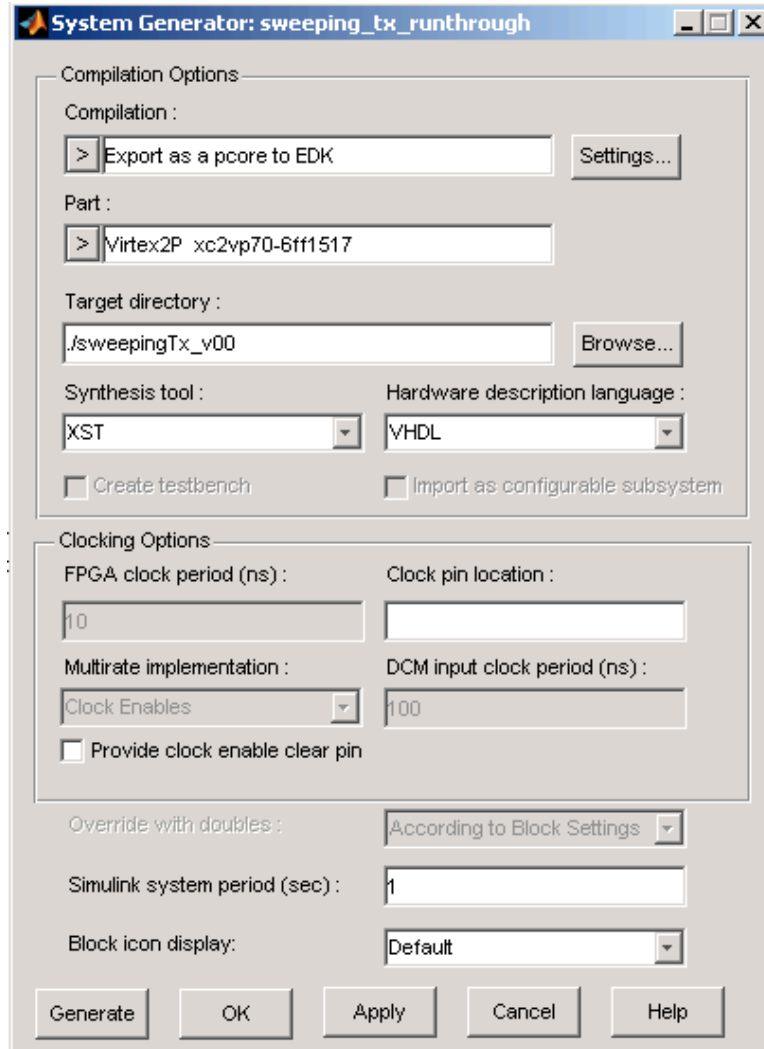

Figure 1: System Generator parameters for PLB core generation
3. Double-click the **System Generator** block. Make sure its parameters match those shown in Figure 1.